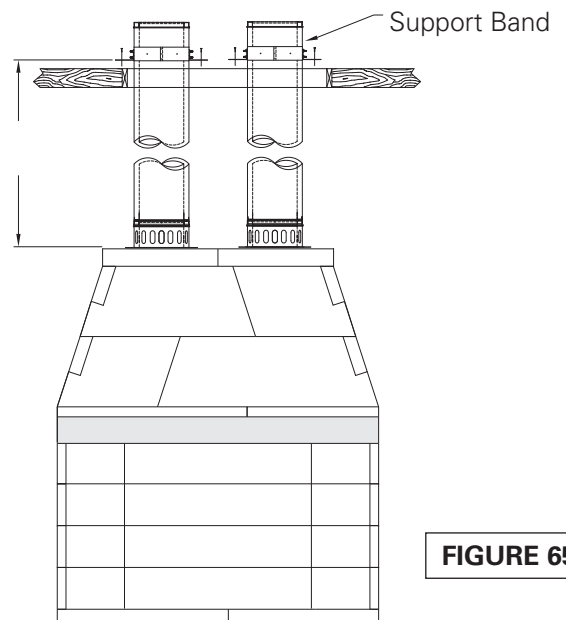

FIGURE 65
6. Angle Support and Support Band: Install an Support Band if total chimney height is greater than 50 feet, or if the fireplace manufacturer requires it. If additional support is needed, install one or more Supports which will support 30 feet of chimney. **(Figure 65)**